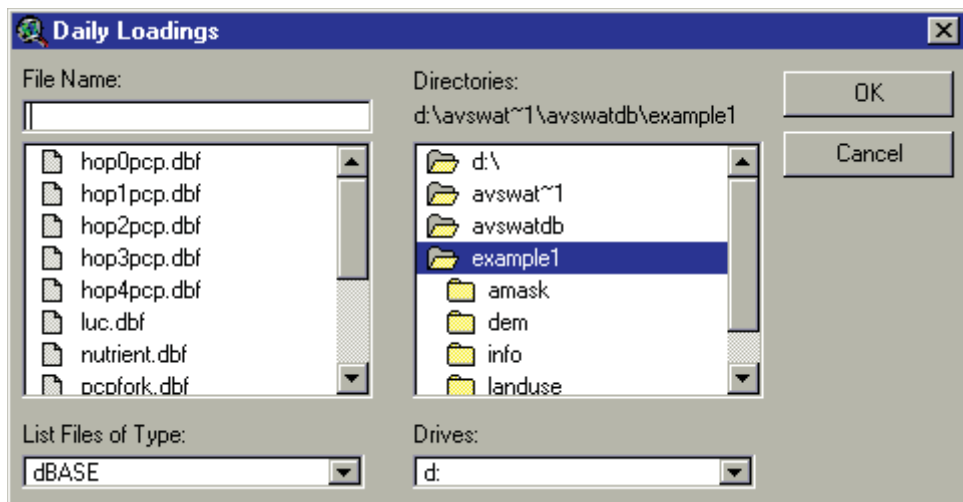

Figure 9.15
- iii. A browser will be displayed, allowing the user to select the dBASE file (.dbf) or text file (.txt) file containing the point source data from disk (Figure 9.15).